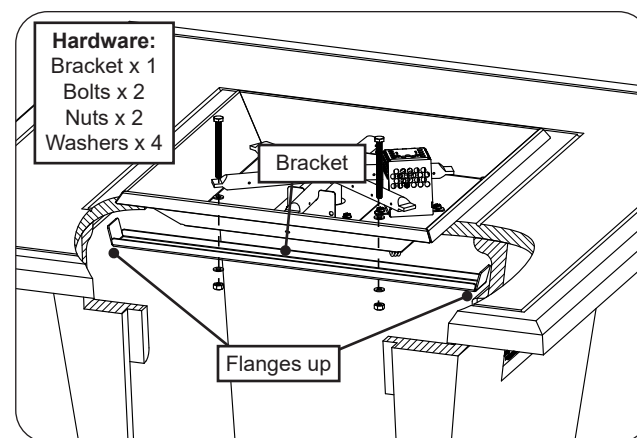

Fig. 27-4 Install bracket
**Important:** Handle with care to prevent damage to the thermocouple, electrical, and gas connections (as applicable). Ensure the valve is oriented and inserted in the manner shown. See Fig. 27-4.
6. Locate the supplied support bracket and install as shown in Fig. 27-4. The bracket must be inserted into the enclosure through the door opening, aligned with the holes found on the burner pan, and fastened with a 1/2" wrench and the supplied bolts (2), nuts (2), and washers (4).